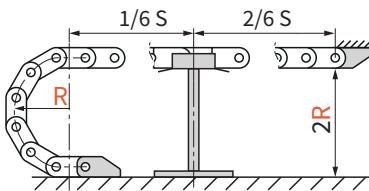

Figure 1
1. Add one support (shown in Figure 1), can extend the unsupported length by 50%;